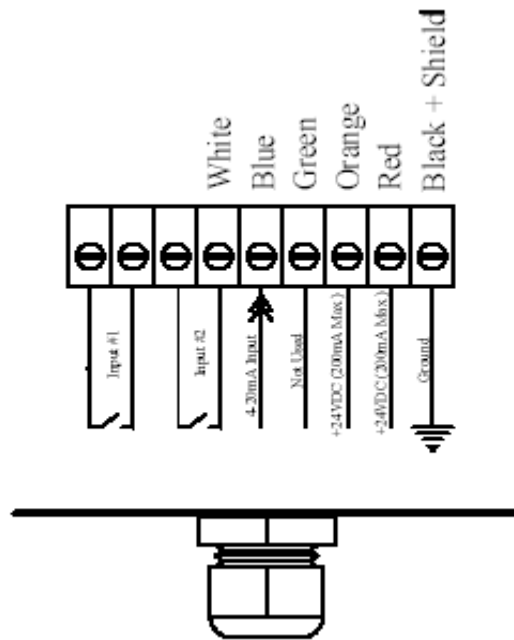

Figure 7.8
7.8.1 Install the PE bulkhead fitting per section 6.1 for sensors with male pipe threads. Install the sensor into the fitting with Teflon[®] pipe sealant. Remove the display unit box cover. Attach the display unit to the PE mounting plates provided on the tank with 4 ea. #10 S.S. Self-tapping screws. Attach the sensor cable to the control box with small strain relief and connect wires per label in the box. Please see Figure 7.8 below for sensor wire attachment information. Attach the unit to 110 VAC and test unit. The display unit is preprogrammed for the tank ordered. The display will show hundreds of gallons (display x 100 = gallons). Refer to literature shipped with unit to answer any additional questions.